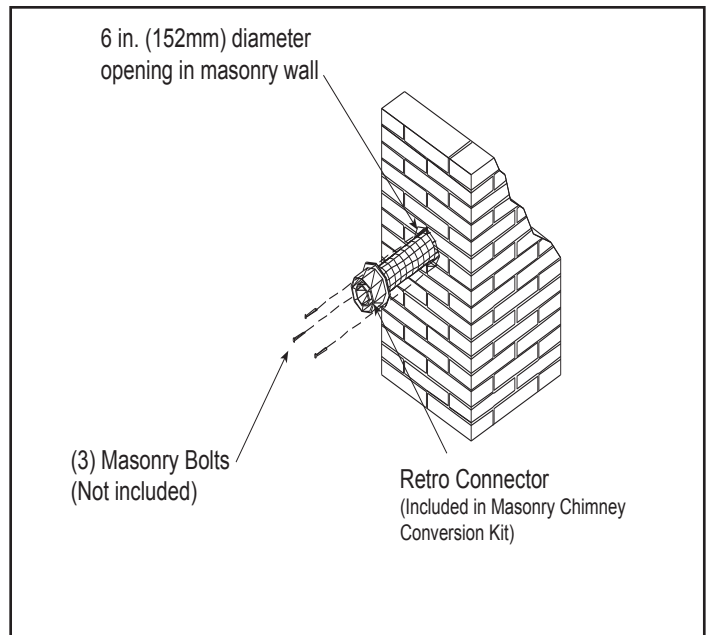

Figure 4.18
- Attach the flex to the retro connector. Use three sheet metal screws to attach the flex liner to the connector. Mount the retro connector to the masonry wall using masonry bolts. See Figure 4.18. Redrill larger holes on connector as needed. Be careful to ensure that the connector is centered in the opening and the mounting holes line up with the masonry wall.